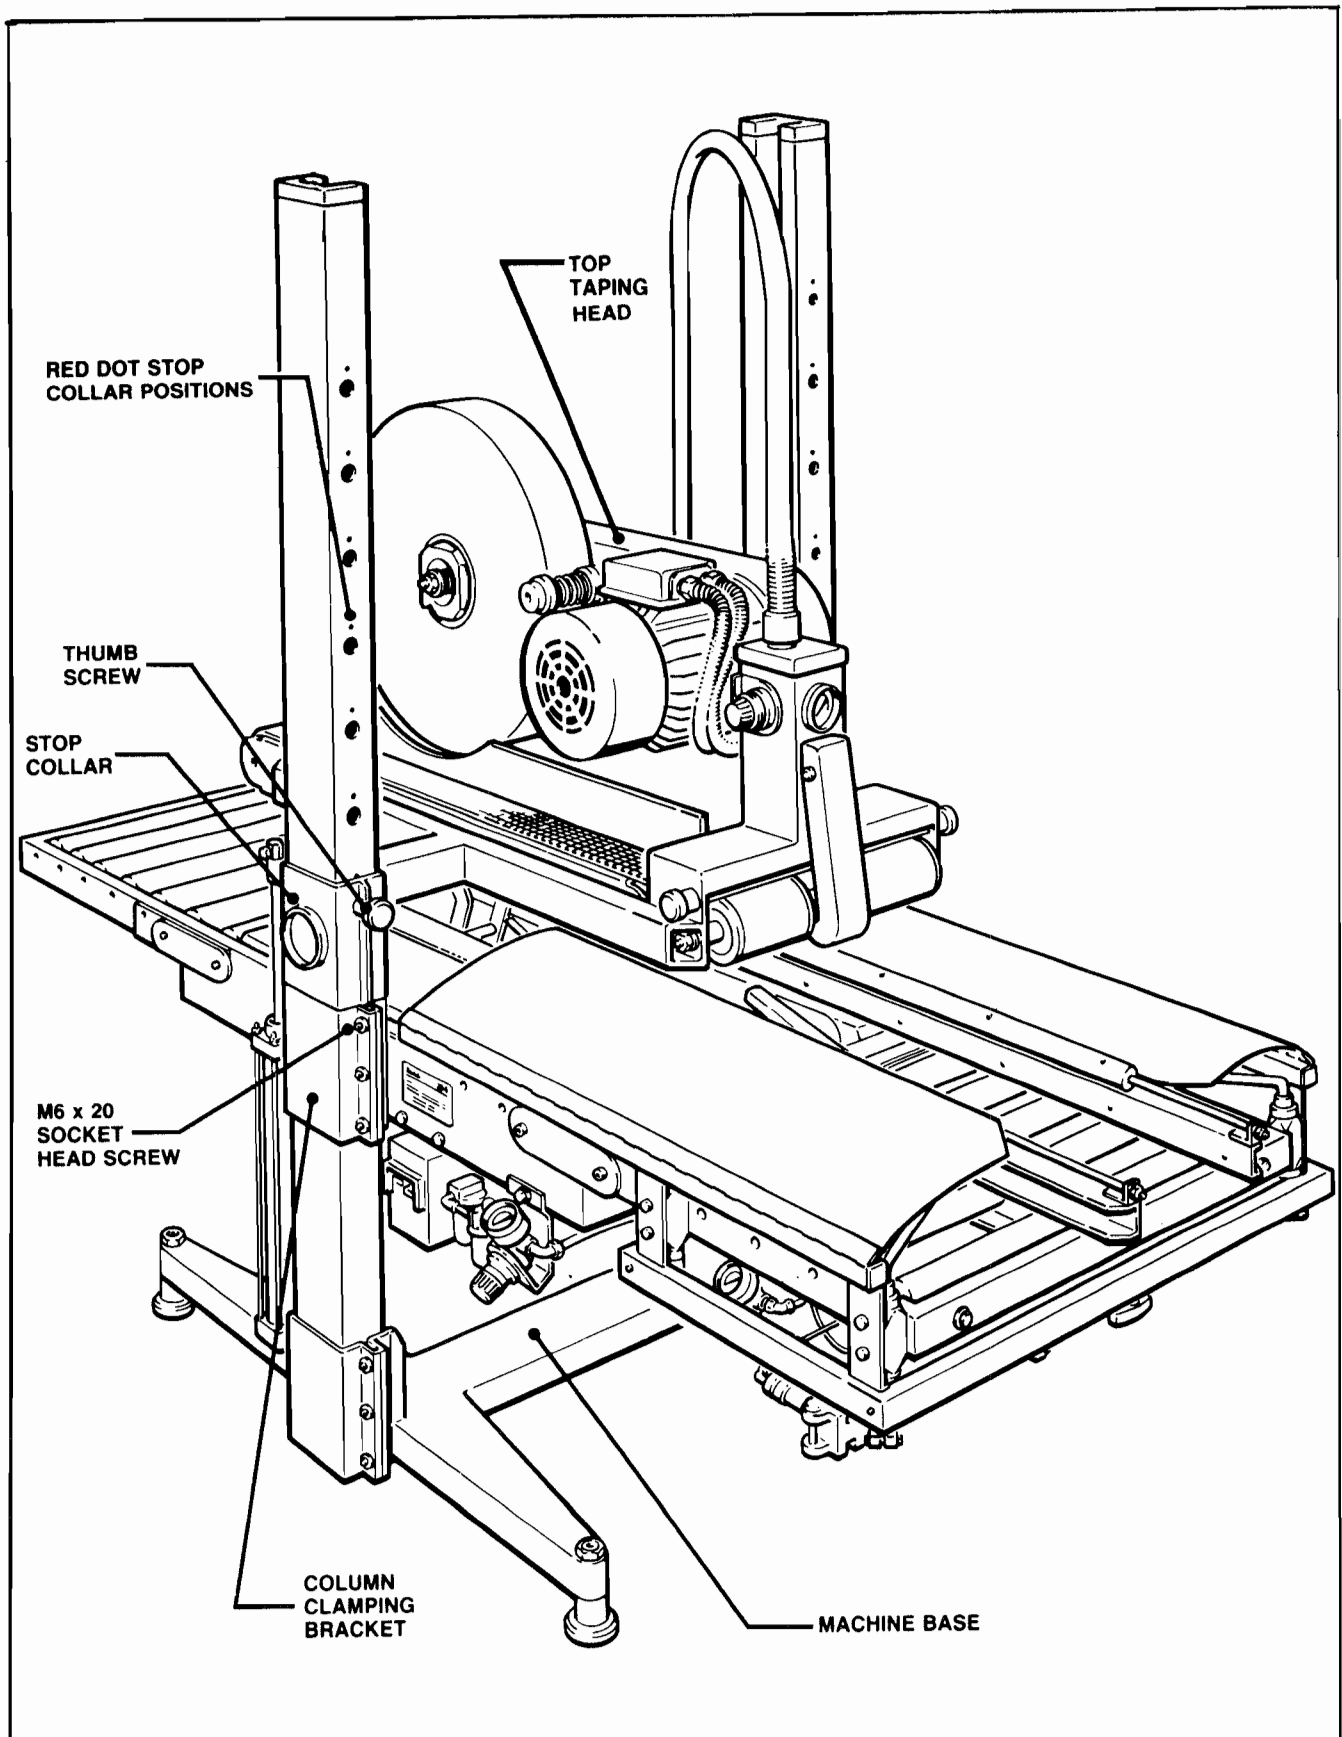

Figure 20 - Conveyor Height, Box Height Range, And Box Width Range
To hold the top taping head at the fully raised position for tape threading and maintenance, a latch is provided to hold the valve lever closed. To engage the latch, manually rotate the knob (2) on either side of the valve lever forward and hold there, manually depress valve lever (1), and then release knob. Top taping head will then be held at the fully raised position. As an added safety precaution, refer to Figure 20 and raise the stop collars to the last red dot position just below stopped position of the top taping head. To lower top taping head, lower stop collars then release latch by manually rotating the knob forward and then release. Top taping head will then descend.